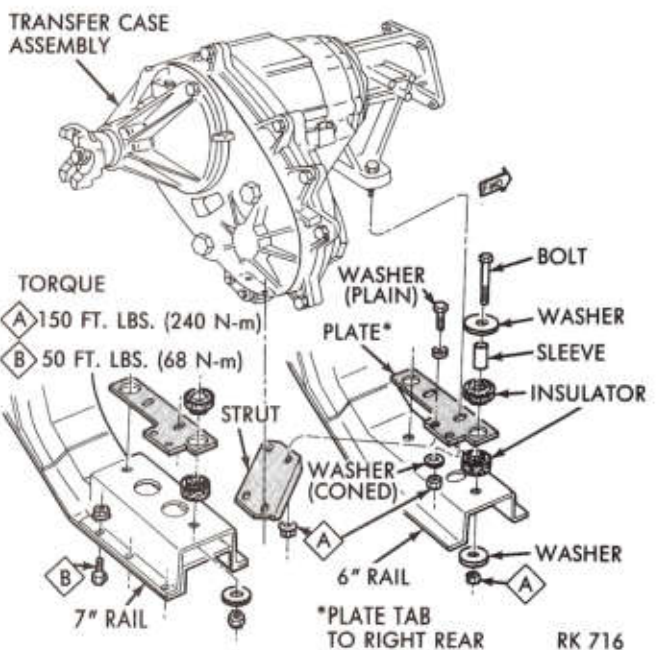
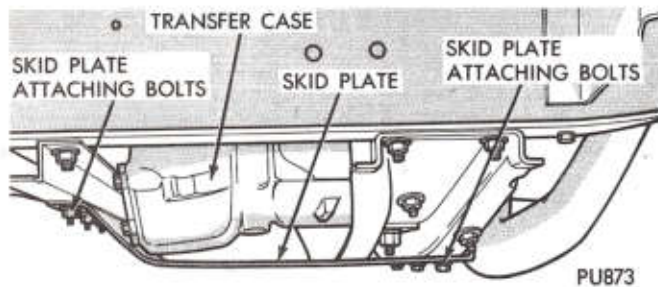

Fig. 3—Engine Mounts, Rear, Four-Wheel-Drive
Fig. 4—Skid Plate
- (1) Raise vehicle on hoist and (if equipped with skid plate (Fig. 4) remove 4 bolts attaching skid plate rear crossmember to under side of frame.
- (2) Remove 5 bolts attaching front end of skid plate to transmission crossmember. Remove skid plate.
- (3) Position transmission jack under transmission and raise rear of transmission and engine **slightly**.
- (4) Remove mounting bolts and insulators, as shown in (Fig. 3).
- (1) Install insulators and mounting bolts, as shown in (Fig. 3).
- (2) Install skid plate and lower vehicle to floor.